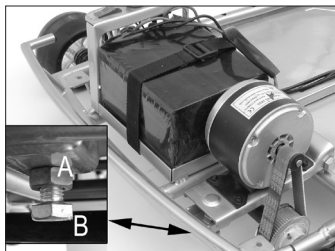

Figure 8
4A-1.) Referring to Figure 8, loosen the belt jack-screw locknut (B) and tighten or loosen the adjusting bolt (A) to tighten or loosen the belt as needed.